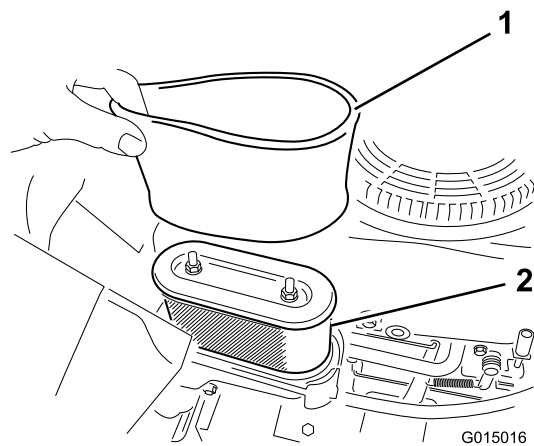

Figure 28
5. Carefully remove the foam and paper filter elements from the air-cleaner housing (Figure 28).
1. Install the foam filter onto the paper filter (Figure 28).